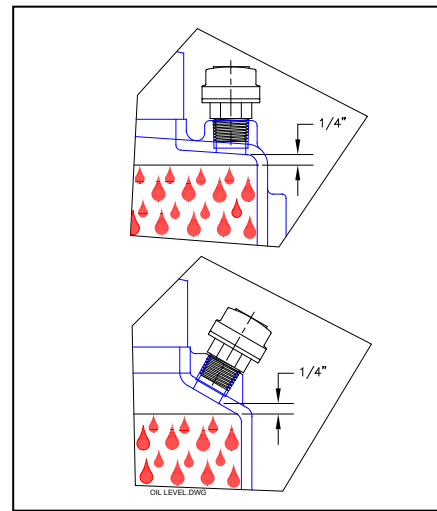

FIGURE 1A
- 1.0.12 Set capacity knob to zero and remove Air Bleed Plug from the top of Oil Chamber, refer to drawings HP-1102 (page 22) for Series 500 and drawing 5024 (page 28) for Series 500-A and 500-E for location of plug. Fill gear box and pump by pouring the hydraulic fluid supplied through the fill opening at the rear of the pump. Pour fluid in slowly until it has reached the correct level per Figure 1A. Do not over fill as this can cause damage to the motor.